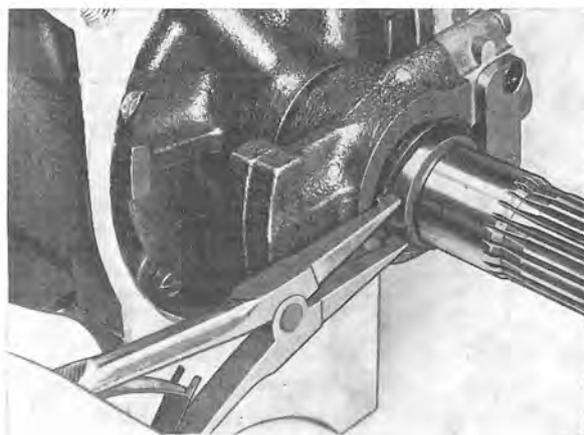

Fig. 4-93. Withdrawing governor
33. Remove the snap ring, see Fig. 4-93, and withdraw the governor. Take care of the detent ball.